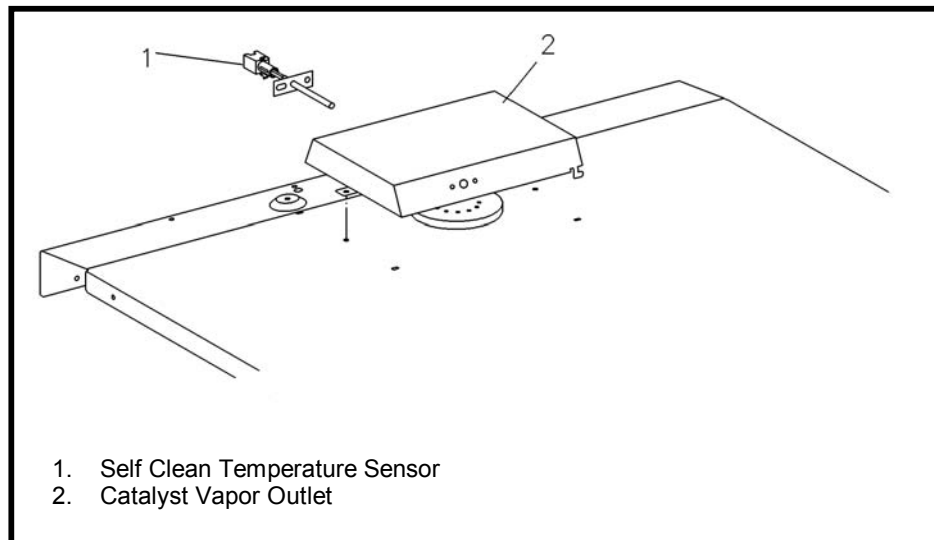

Figure 5-19: Self Clean Temperature Sensor Removal
5. Refer to Figure 5-19. Move the retaining spring to the side and remove the Sensor (Item 1) from the Catalyst Vapor Outlet .